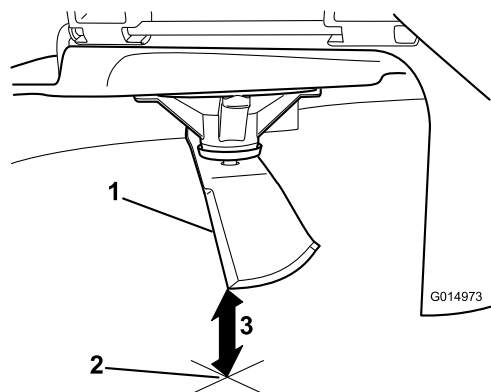

**Figure 99**
3. Measured distance between blade and the surface (A)
4. Rotate the same blade 180 degrees so that the opposing cutting edge is now in the same position (Figure 99).